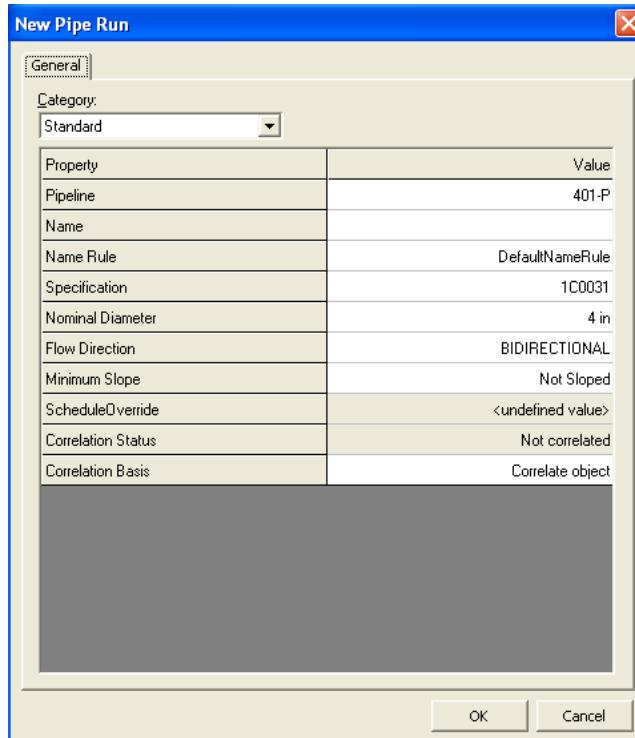

Figure 29: New Pipe Run Dialog Box
31. The **New Pipe Run** dialog box appears. Set the following parameters in the **New Pipe Run** dialog box, as shown in Figure 29, and click **OK**: